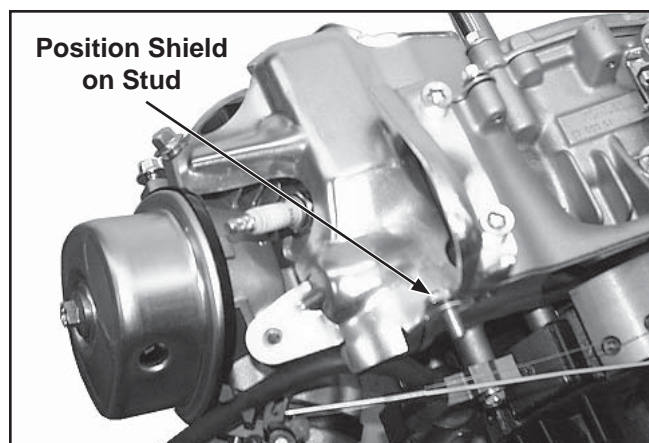

Figure 11-60. Position Upper Shield.
1. Install the upper shield on the cylinder, engaging the tab hole on the fuel tank bracket stud. See Figure 11-60.